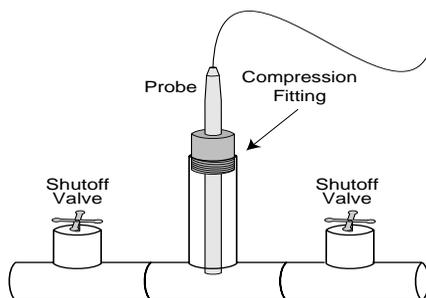

Fig.2.4 • In-Line Location Using Tee Fitting
- In-Line Location Using Tee-Fittings (Figure 2.4).
The probe is placed into a tee-fitting, as shown in Figure 2.4. You will need to provide the tee-fitting for this installation. The diameter of the in-line portion of the tee should be 1/2 inch (3/4" for conductivity probe) regardless of whether you are using laboratory or standard grade probes as they are supplied from RK2. RK2 offers two compression fittings for installation of the probes. Flow rates across the pH and ORP probes should be limited to < 10 GPM.